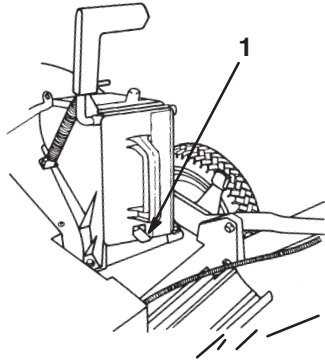

Figure 5
3. Push the plug all the way in until the spring clip on the bottom of the plug clicks into place, locking the plug securely into the discharge tunnel (Fig. 5).